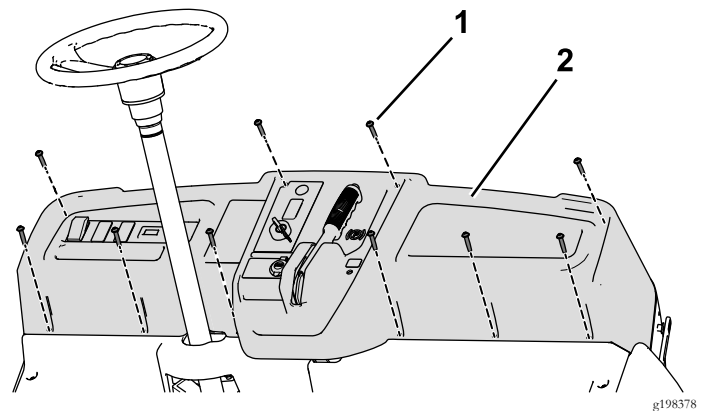

Figure 62
- Remove the 10 screws (1/4 x 1-1/4 inches) to partially remove the dashboard and disconnect the parking brake (Figure 62).